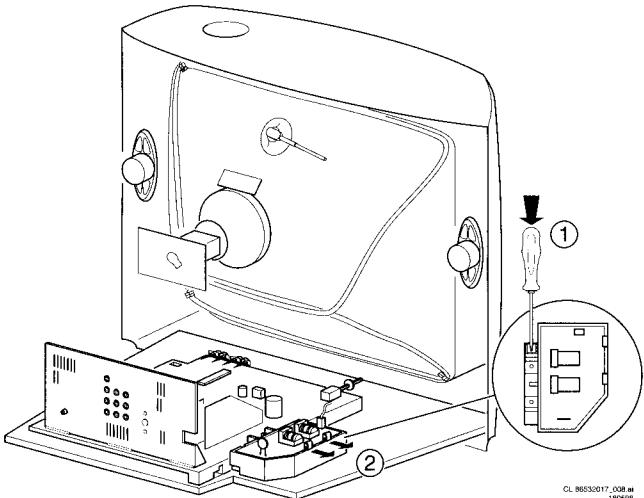

Figure 4-1
4.2.1 Separate mains filter (figure 4.1)